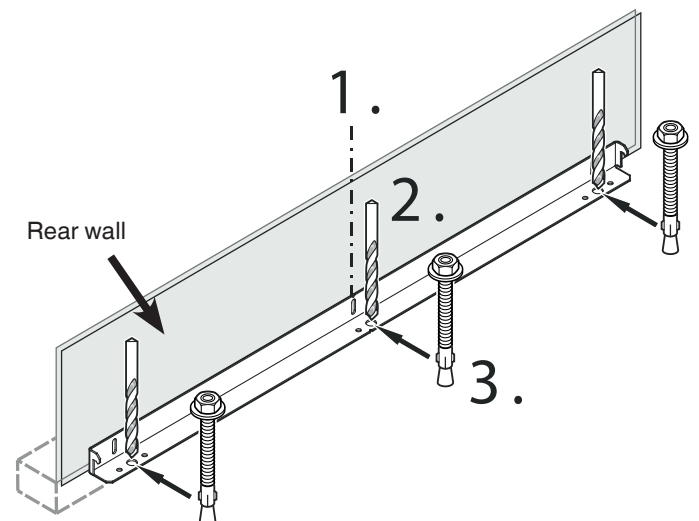

Figure 4
### Mounting the anti-tipping device on concrete floors - figure 4 - 5
2. Drill 10 mm diameter holes in the positions shown in **figure 4** using a carbide drill bit. The depth of the holes must exceed the overall length of the anchors. Clean the holes after drilling.